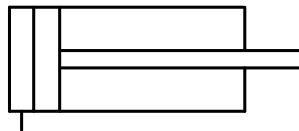

FIG 9.
C. The symbol for a single-acting cylinder returned by external force is shown in Fig 9.